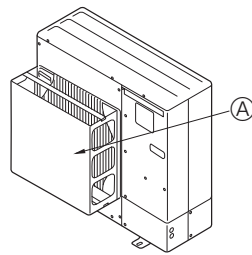

Fig. 2-3
- ② Install an optional air guide if the unit is installed in a location where strong winds such as a typhoon, etc. may directly blow to the air outlet. (Fig. 2-3)